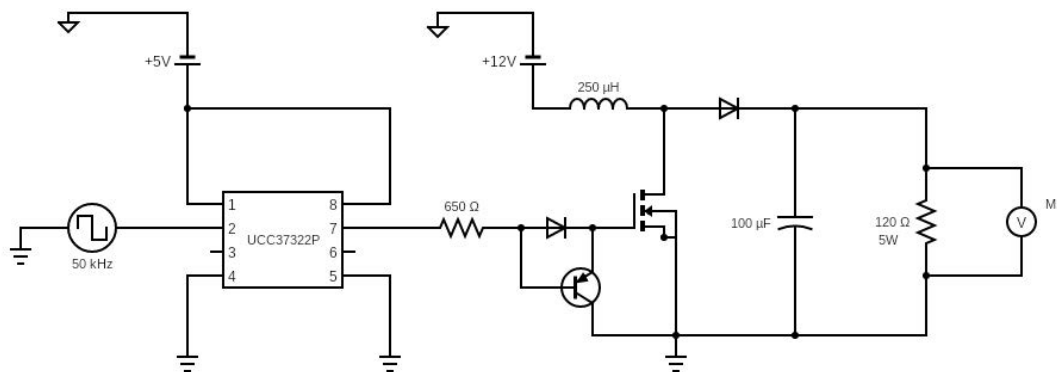

Figure 32
1. Make connections according to Fig.32